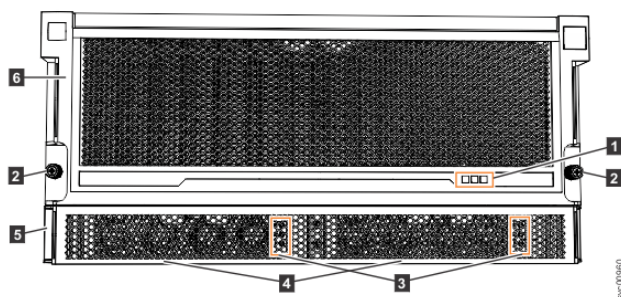
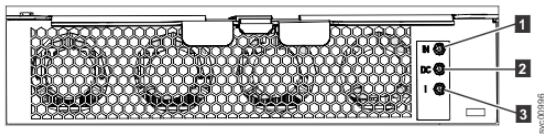

Figure 187. LEDs on the front of the expansion enclosure
Figure 188. LEDs on the front of a power supply unit
As Figure 187 on page 223 shows, the front of the 5U expansion enclosure contains LEDs for the display panel (1) and for each of the power supply units (3).
The 5U expansion enclosure contains two PSUs (4) in Figure 187 on page 223 that are accessible from the front of the enclosure. Each PSU has its own a set of LEDs, as shown in Figure 188 on page 224.